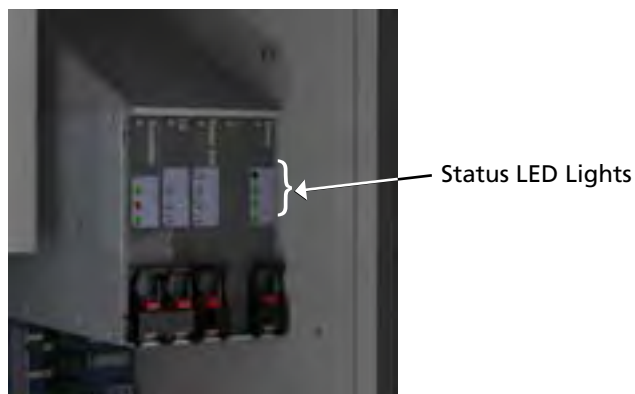

Figure 7-6 Communications Card with Status LED Lights
- Communication card – The primary location is on the face of the communication card which resides in the card cage in the right side of the Power Module Assembly. Refer to Figure 7-6.